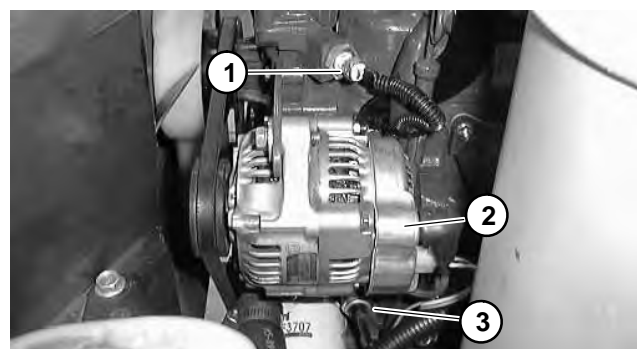

Figure 11
C. Engine temperature sensor, alternator, and low oil pressure switch (Fig. 11).
D. Engine temperature sensor, alternator, and low oil pressure switch (Fig. 11).